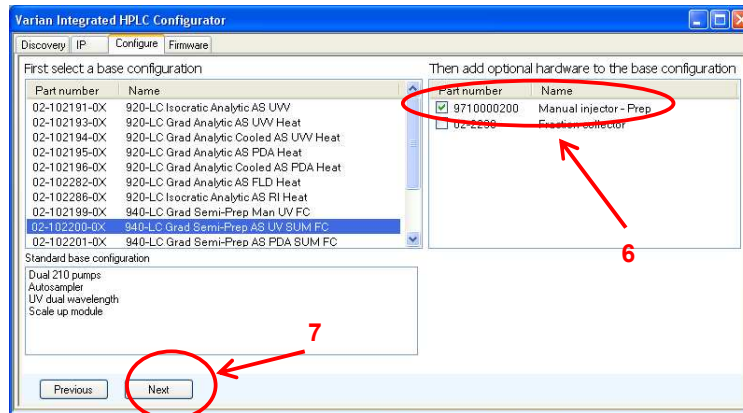

Figure 23: Selecting the Manual Injector Option
4. The next screen will show the current configuration of the 940-LC. Click on the manual injector option in the right hand options window (Figure 23).